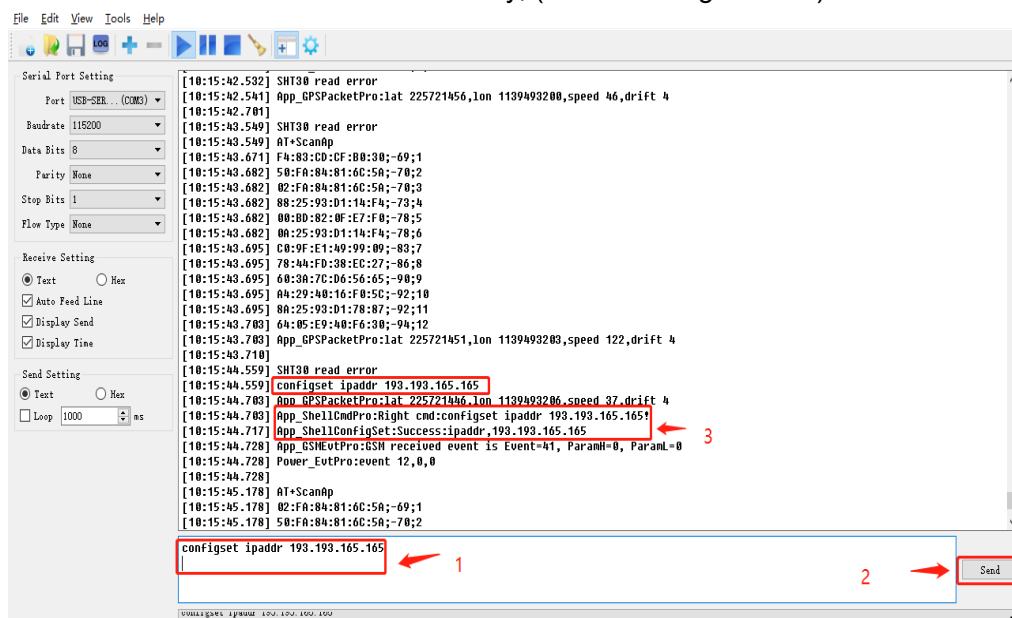

Figure 4-11 Input command and send out on Shell
- 8) Click the input region and enter command string here, extra 'RETURN' key-in must require at the end of command line (or not the command will be ignored when received by the tracker device). Input command and send it to the tracker device (TL904D), most of commands will be back instantly; (Shown as Figure 4-11)